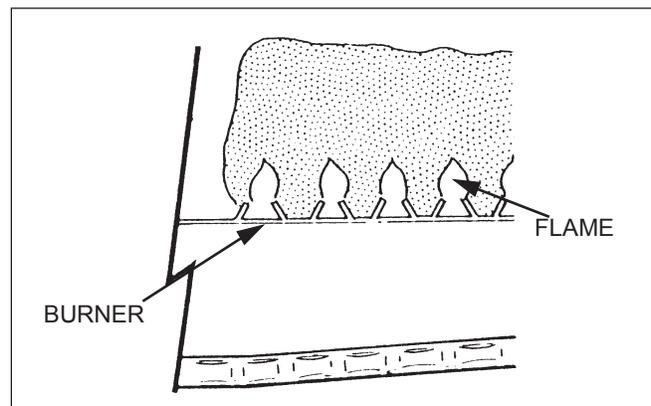

Figure 22. Main Burner Flame
- b. Twenty-five mm to 100 mm above burner surface. See Figure 22.